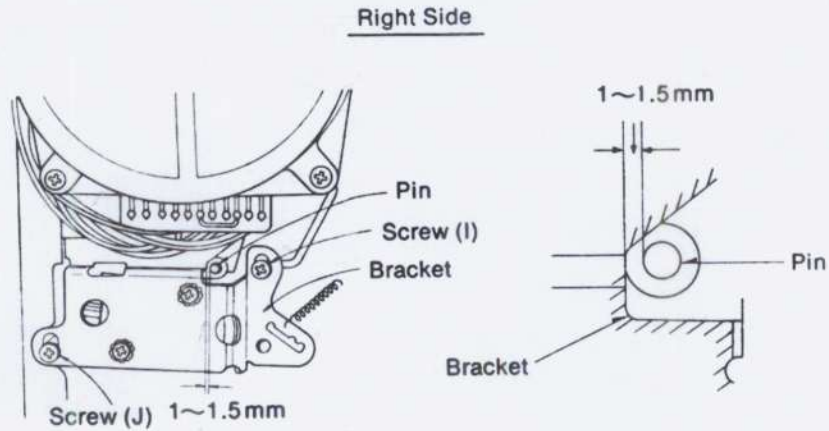
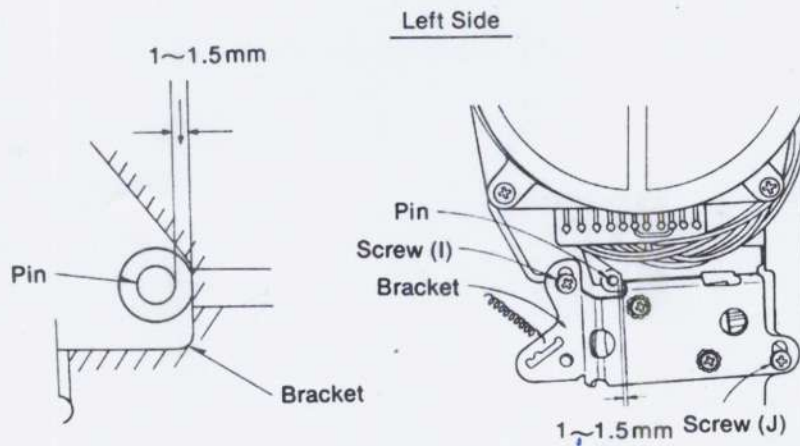

Fig. 24
Fig. 25
- (1) Loosen the plunger bracket screws (I) and (J).
- (2) As shown in figure 24 (for right side) and figure 25 (for left side), secure the bracket so that the space between the pin and bracket is 1—1.5 mm.